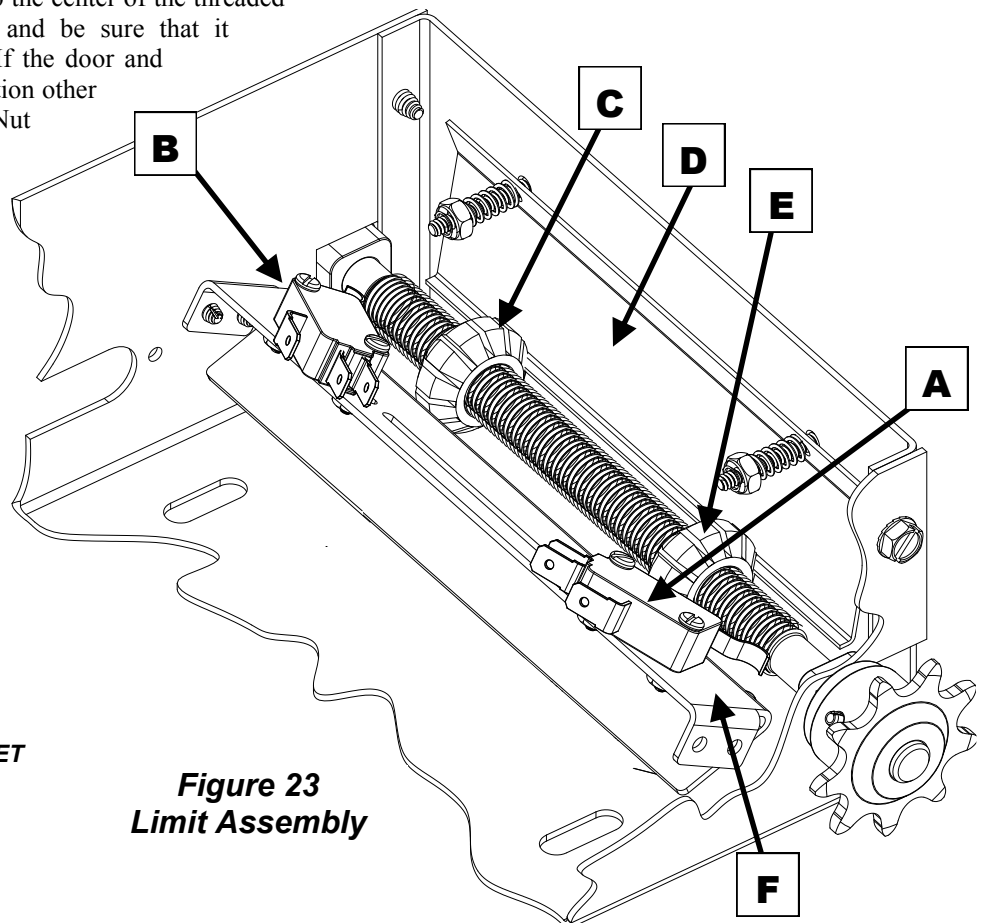

Figure 23
1) With the cover open on the electrical enclosure, reference Figure 23 below. There are two (2) switches (A and B) mounted to the 'V' bracket (F). The switches are activated by the two limit nuts (C and E) on the threaded shaft which move laterally along the shaft as the operator opens and closes the door. When a limit nut nears the end of the shaft it activates a switch, that send a message back to the motor control board to stop the door.
2) For original installation setting, the door and operator trolley should be positioned at the fully closed position. If this is the case, depress the Limit Nut Retention Plate (D) so it disengages from the slots in the limit nuts and move the Reverse Cutout Limit Nut (E) on the shaft until it engages the Reverse Cutout Limit Switch (A) (see Step 5 for an explanation of the Reverse Cutout function). You will need to listen for an audible click. Move the Open Limit Nut (C) to the center of the threaded shaft. Release the retaining bracket and be sure that it engages in slots of both limit nuts. If the door and operator trolley are at some other position other than fully closed, depress the Limit Nut Retention Plate (D) so it disengages from the slots in the limit nuts and move the both the Limit nuts to the center of the threaded shaft. Release the retaining bracket and be sure that it engages in slots of both limit nuts.
4) Depress the limit nut retaining plate (D) so it disengages from the slots in the limit nuts. Turn the OPEN limit nut (C) on the shaft until it engages the Open Limit Switch (B). You will need to listen for an audible click. Release the retaining bracket and be sure that it engages in slots of both limit nuts.
5) With all due care use the built-in three button station on the motor control board or the wall mounted three button station to lower the door to the fully closed position and repeat Step #4 with the Reverse Cutout Limit nut (E) and the Reverse Cutout Limit switch (A). The actual Close Limit position is a timed function whereas the door continues to run for a certain period of time after the Reverse Cutout Limit switch is activated. This amount of time (Close Limit Delay) is factory set to 0.32 seconds and will provide reversing cutout of approximately 4 inches from the floor for a door traveling at 12 inches per seconds. If the door fails to reverse when an object at least four inches high is placed in its path (see Testing, page 21) it may be necessary to adjust the Close Limit Delay time, see procedure on page 16.